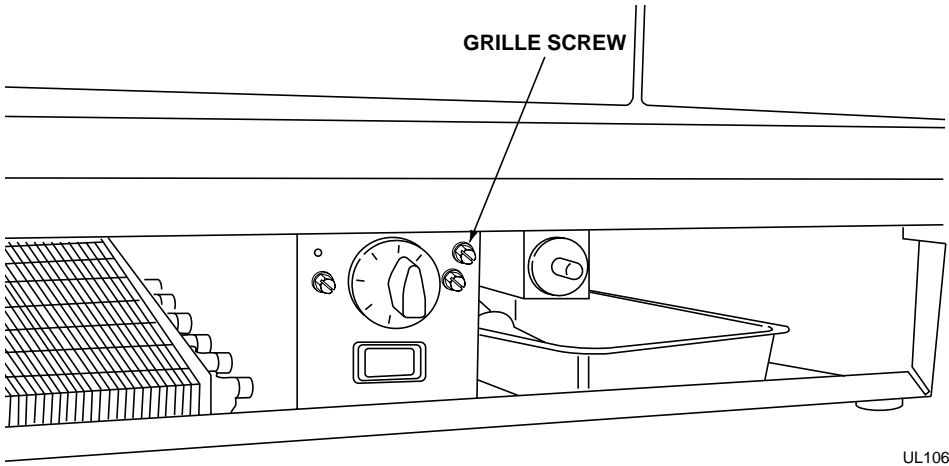

Figure 10
1. With a standard blade screwdriver (or 1/4" nutdriver), remove the screw needed to attach the grille (see Figure 10).